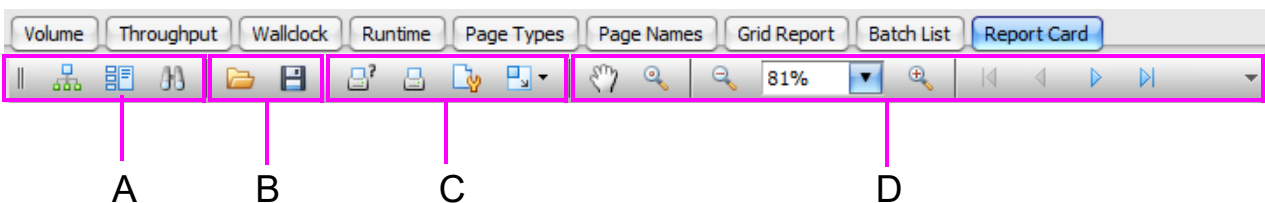

Figure 4-39: Report card controls
4. Refer to Figure 4-39 for the following control locations.